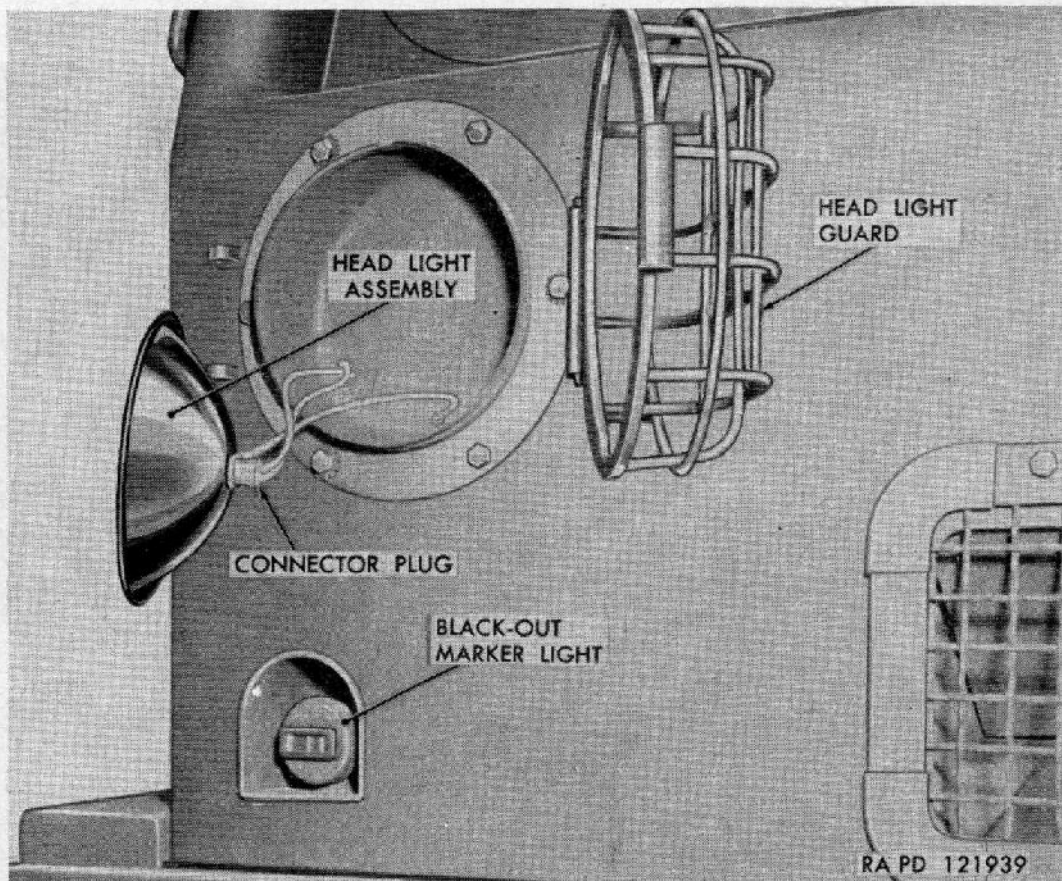

Figure 94. Head light assembly removal.
a. Replacement of Lamps. Lamps may be replaced in the head lights and rear floodlight by removing one bolt from the light guard and swinging it to one side (fig. 94). Loosen cap screw at bottom of
b. Replacement of Light Assembly. Remove one bolt from light guard and swing it to one side. Disconnect wires at connector plug behind assembly (fig. 94). Remove six cap screws from the light mounting flange and pull assembly out of hull. Replace assembly and install the six cap screws. Connect wires at plug and install bolt in light guard.